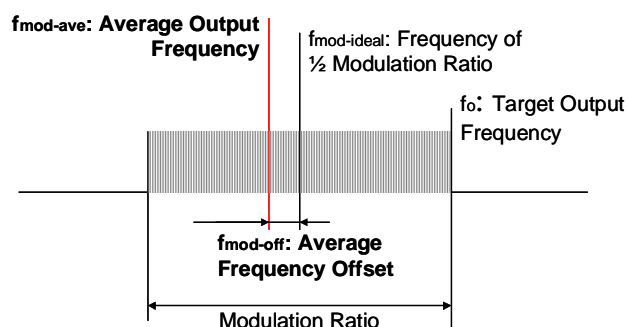

Figure 1: Offset in the mode of down spread modulation
(6) The average output frequency in the mode of down spread modulation is intentionally offset against the ideal average frequency. The offset is specified by percentage to the target output frequency as shown in **Figure 1**.